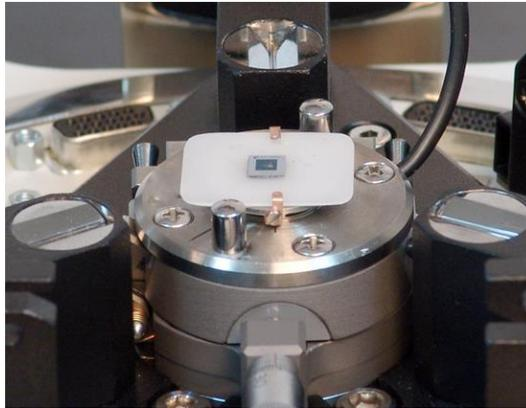

Fig. 8-8. Installing the sample on the scanner without sensors
4. Place the sapphire substrate with the sample on the sample stage. Insert the substrate from the side of two support balls under the spring clips so that the clips secure the substrate while the substrate bottom is supported by the three support balls (see Fig. 8-8).